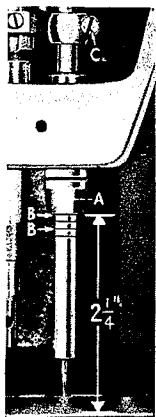
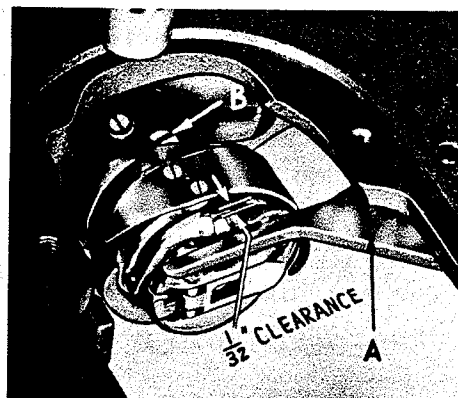

Fig. 11
Fig. 12
The lower needle bar bushing, the one to which the needle bar is timed, is set at the factory. The distance from the bottom of bushing (A, Fig. 11) to the throat plate seat is $2\frac{1}{4}$ inches.
When the needle bar is at its lowest position, the upper timing line (B, Fig. 11) (of the pair selected) dependent upon the needle used, should be EVEN with the lower edge of the lower needle bar bushing (A).
The illustration (Fig. 11) shows the proper setting of the needle bar on Style 63400 A, using extra short length needle, Type 183 GXs or 183 GYS. The setting of the needle bar on Style 63400 B, using short length needle, Type 180 GXs or 180 GYS, is accomplished in the same manner, except that the lower pair of timing marks on the bar is used.
Tip the machine back so that it rests on the rest pin in the table top. Insert a new needle. Loosen the two screws and swing out the bobbin case positioning finger (A, Fig. 12). Loosen the three set screws (B) in the hook and hold the hook and bobbin case holder in such a position as to prevent interference with the needle. Turn the handwheel in operating direction until the needle bar is at its lowest position and continue to turn the handwheel until the needle is ascending and the lower timing mark (of the pair selected) (Fig. 11) used in setting the needle bar is even with the lower edge of the needle bar bushing (A).
Turn the hook on the shaft until the point of the hook is even with the center of the needle and as close to the needle as possible without deflecting it. A spacing of .003 to .005 inch between the needle and the point of the hook is satisfactory. With the hook in this position, tighten the set screw opposite the hook point securely. Then, tighten the two remaining screws securely and recheck the timing of the hook with the needle, at which time, the top of the eye of the needle should be about $\frac{1}{64}$ inch below the bottom of the hook point. If this condition does not exist, recheck the setting of the needle bar bushing in relation to the throat plate seat (Fig. 11).
Adjust the bobbin case holder positioning finger by turning the bobbin case holder until the finger recess is at the top. Place the projection on the finger into the bobbin case holder recess and tighten the finger attaching screws securely, allowing $\frac{1}{32}$ inch clearance between the outside edge of projection and the inside edge of bobbin case recess (Fig. 12).